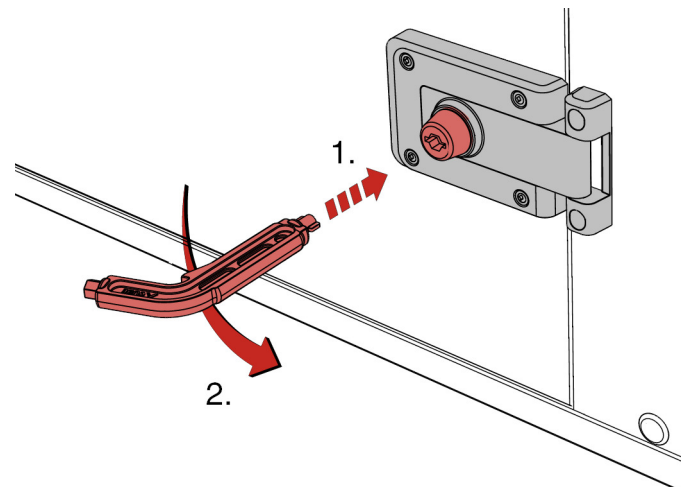

Fig. 49: Inspection access door with safety lock
- ▶ Insert the TROX special key into the lock and turn it anti-clockwise as far as it will go (Fig. 49).